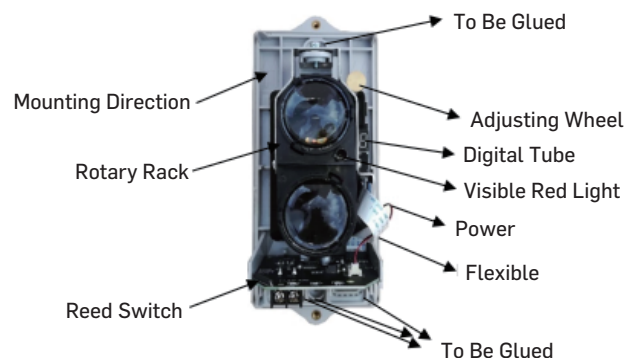

Fig.2
2) Components inside the detector and positions with glue are shown in Fig. 2.
**Note:** As the detector is mounted in the special environment such as dust, damp, three positions as shown in Fig. 2 should be sealed with glass glue or 703 silica gel after fixing and wiring, ensuring the detector works stably.